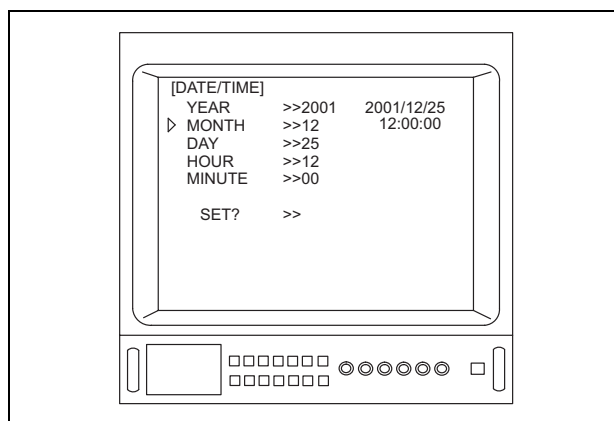

Figure 5.9
4. Depress the menu switches “◀” or “▶”, or the “↑/↓/←/→” key on the keyboard to move the arrow “▷” to an item that you would like to set up (for example, “MONTH”) (see Figure 5.9).
Depending upon the OTV-S7V's settings, the menus shown in Figures 5.9, 5.10, 5.11, 5.12 and/or 5.13 may appear different from those displayed on the video monitor.
7. Depress the menu switch “◼” or “◀”, or the “F1” key or “Enter” key on the keyboard quickly to enter the setting. Then, the menu shown in Figure 5.9 is displayed.